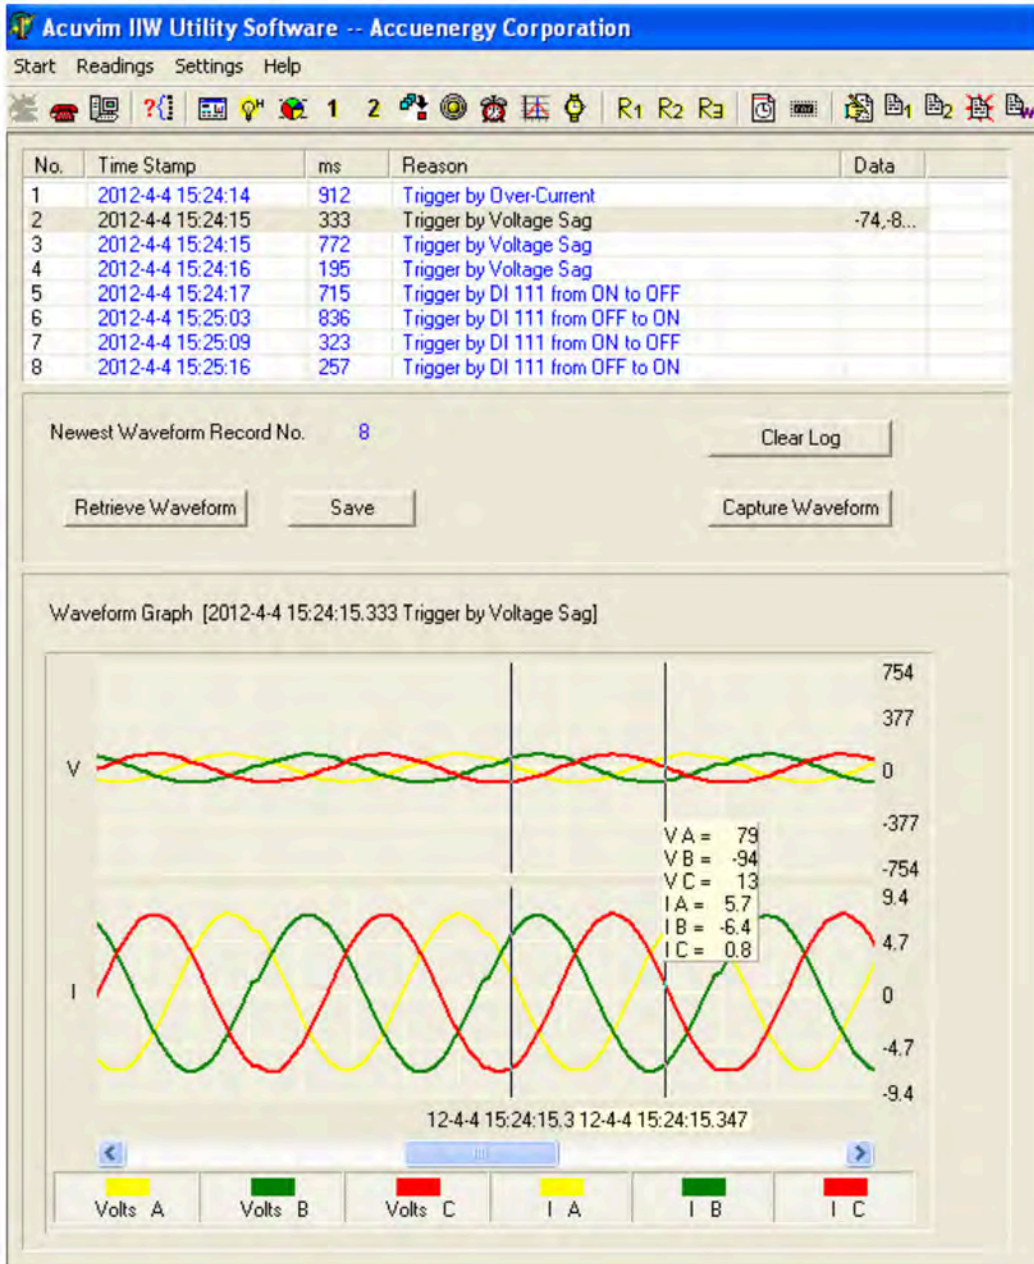

Fig. 4-14
3) 100mV(Rope-CT):  $\text{Real Value (Unit: A)} = \text{Waveform Value} / K$  (firmware above 3.21,  $K=20291.1$ ; firmware 3.20,  $K=22068.8$ , other:  $K = 15869.87$ ); 4) mA CT:  $\text{Real Value (Unit: A)} = \text{Waveform Value} / K$  (80mA CT:  $K=7414.289$ ; 100mA:  $K=9267.440$ ; 200mA:  $K=18514.68$ ); The voltage and current value obtained from the waveform are the PT or CT secondary side value. The waveform capture retrieve page is shown in Fig 4-14.